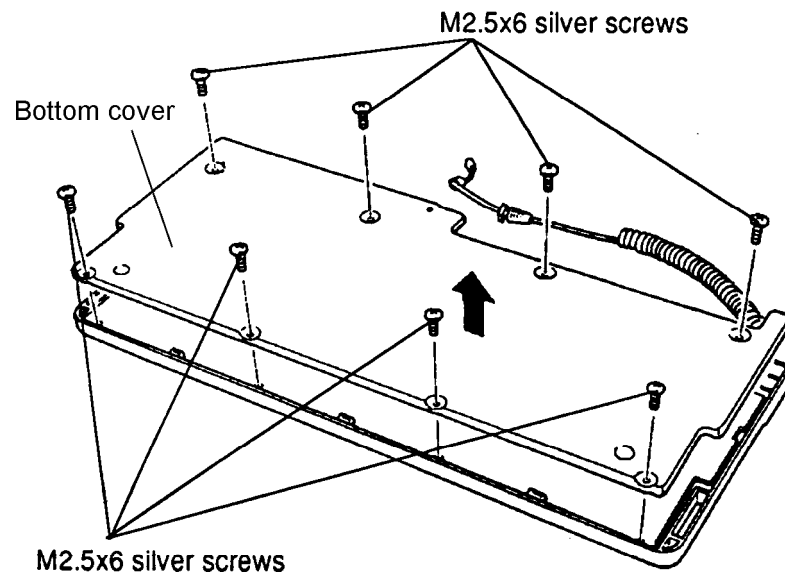

Figure 4-8 Removing the Keyboard
To remove the keyboard from the keyboard unit, follow the steps below and refer to Figures 4-8 through 4-11.
3. Turn the keyboard unit over and remove the eight **M2.5x6 silver screws** securing the **bottom cover** (Figure 4-8).
To install the T6600C's keyboard, follow the steps below and refer to Figures 4-8 through 4-11.
5. Set the **bottom cover** of the **keyboard assembly** in place, then secure it with eight **M2.5x6 silver screws** (Figure 4-8).